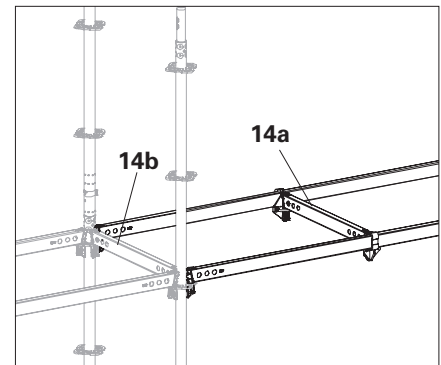

Fig. A11.07c
- Due to increased load requirements, the assembly tolerances are very low. When installing a horizontal ledger (14a) that is secured on both sides, knock the horizontal ledgers (14b) running parallel to it into place last. (Fig. A11.07c)